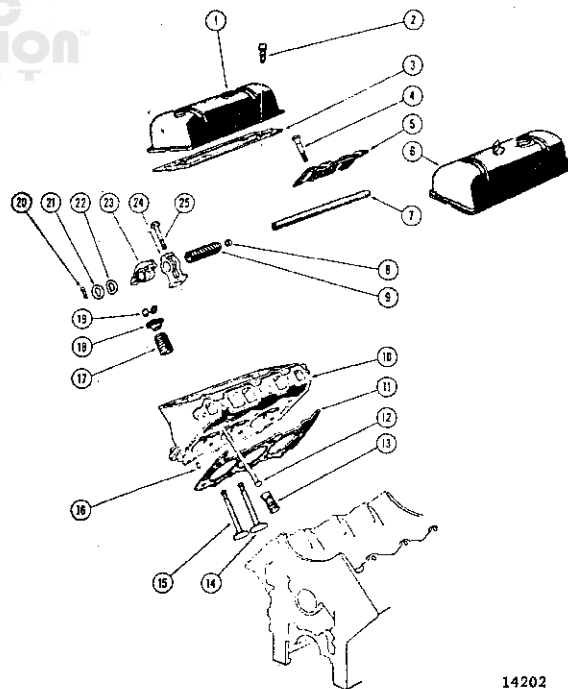

FIG. D1-8—CYLINDER HEAD, ROCKER ARM AND COVER
Refer to Fig. D1-8.
- a. Unscrew, but do not remove, three bolts (Fig. D1-8) which attach rocker arm assembly to cylinder head. Remove rocker arm assembly, with bolts, from cylinder head. See Section F2 for engines equipped with exhaust emission control.